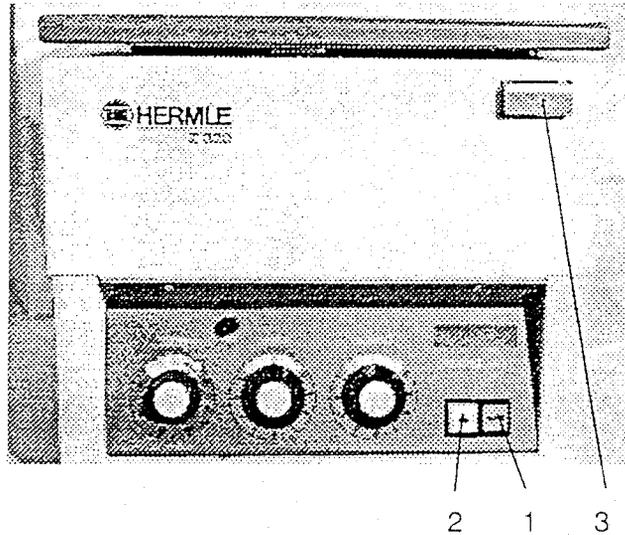

Figure 3
2. Switch on the power switch (1), the green control lamp of the power supply (1), as well as the white control lamp of the lid release (2) will light. The lid can then be opened by pressing firstly the lid release switch (2), as well as secondly the mechanical lid lock (3), (see figure 3).